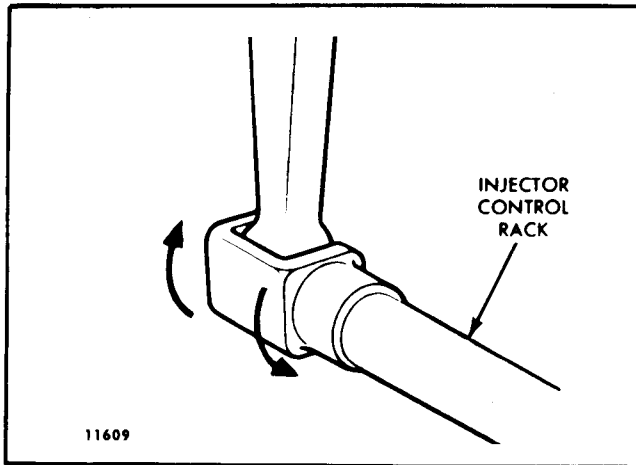
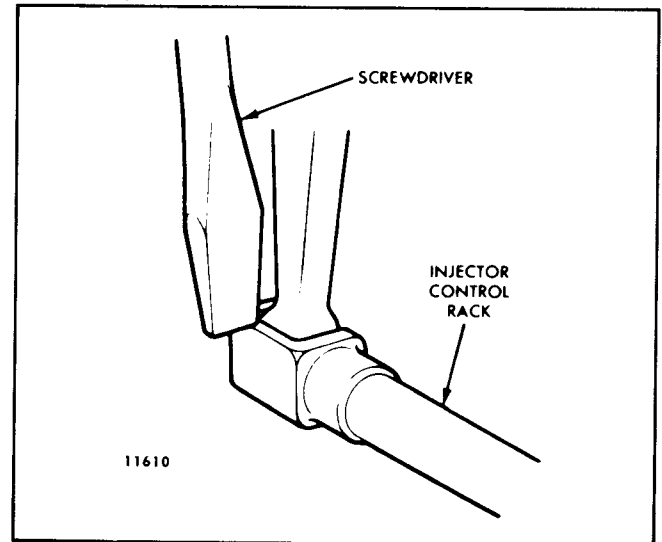

Fig. 3 - Checking Rotating Movement of Injector Control Rack
Fig. 4 - Checking Injector Rack "Spring"
6. To be sure of the proper rack adjustment, hold the speed control lever in the full-fuel position and press down on the injector rack with a screwdriver or finger tip and note the "rotating" movement of the injector control rack when the speed control lever is in the maximum speed position (Fig. 3). Hold the speed control lever in the maximum speed position and, using a screwdriver, press downward on the injector control rack. The rack should tilt downward and when the pressure of the screwdriver is released, the control rack should "spring" back upward (Fig. 4).